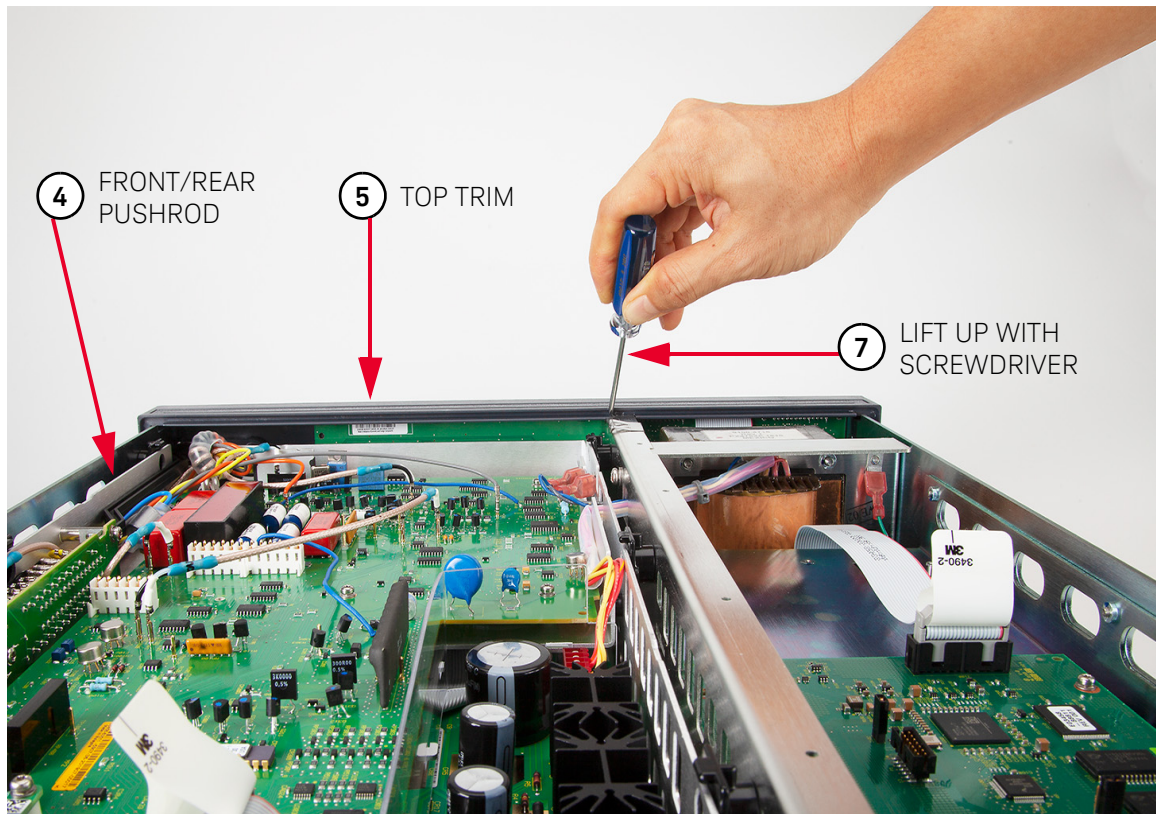

Figure 3-17 Top trim and front/rear pushrod locations, and unlock panel
- 5 Refer to Figure 3-17. Do the following:
- 8** Refer to Figure 3-17. With a small flat bladed screwdriver, lift up the Front Panel assembly and unlock it from the chassis. Carefully move some more of the Front Panel assembly's left side (as seen from the front of the instrument) until free from the chassis. Then move the rest of the Front Panel assembly out and away from the instrument as far as it can go. Note that the assembly can only be moved a short distance, since the front terminals are still internally connected to the instrument.
- 11 Install the top trim into the channel on top of the Front Panel assembly. Lock it in place (see Figure 3-17).
- 13 Refer to Figure 3-17. Guide the Front/Rear Terminals switch pushrod through the rear of the front panel's access hole. Then align the pushrod with the Front/Rear Terminals switch shaft and push it all the way onto the shaft.